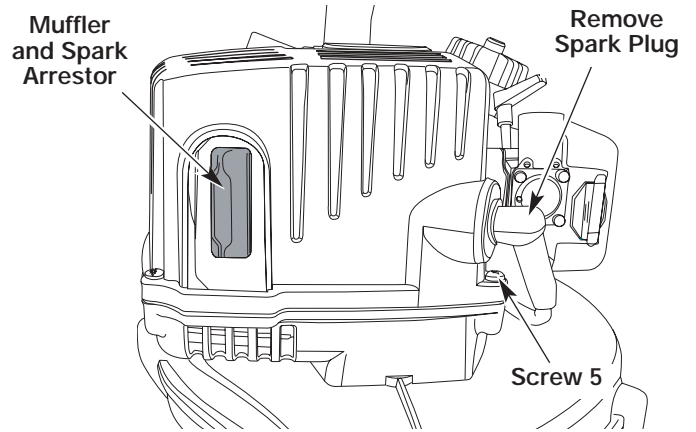

Fig. 12
1. The spark arrester is located in the muffler, under the engine cover. When facing the unit from the front, the muffler and spark arrester are positioned on the left hand side (Fig. 12).